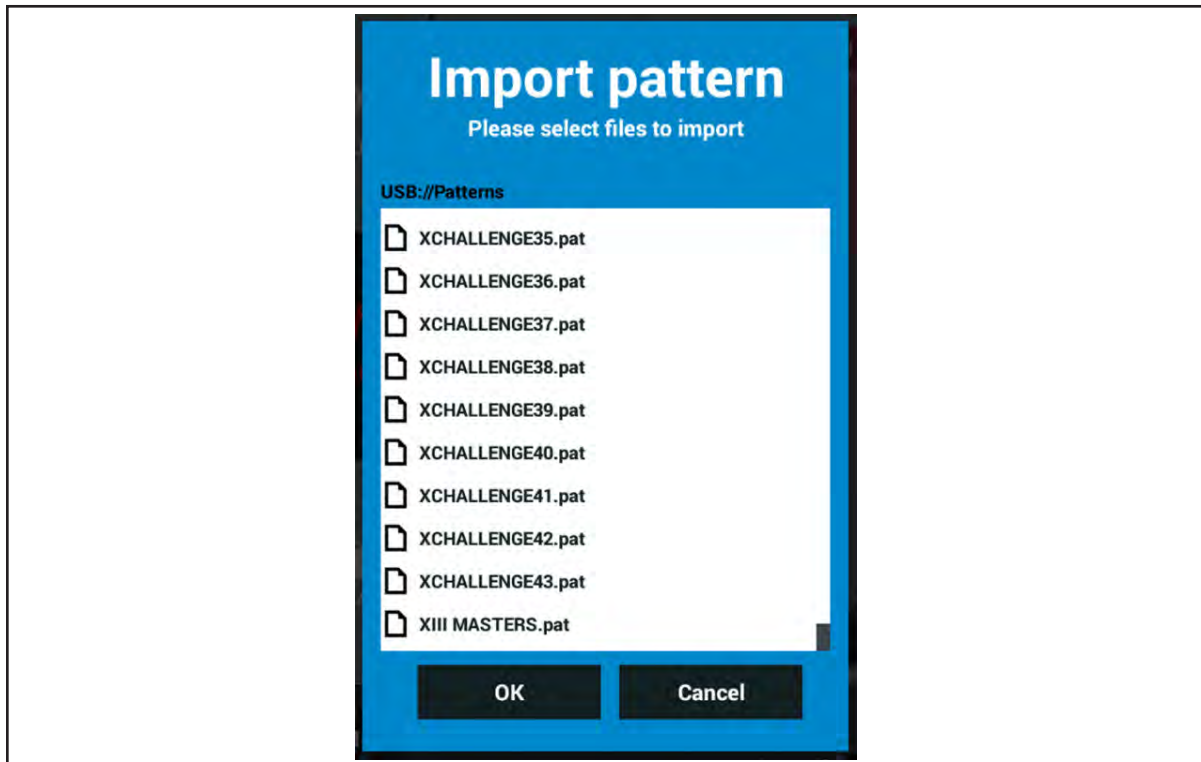

Figure 4-17. USB Pattern Files
4. Select the file folder that contain the conditioner patterns to view them. Refer to *Figure 4-17*.